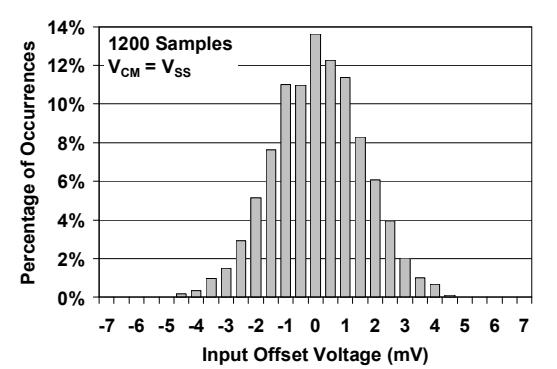

**FIGURE 1-3:** AC and DC Test Circuit for the Push-Pull Output Comparators.
**Electrical Specifications:** Unless otherwise indicated,  $V_{DD} = +1.6V$  to  $+5.5V$ ,  $V_{SS} = GND$ ,  $T_A = +25^\circ C$ ,  $V_{IN^+} = V_{DD}/2$ ,  $V_{IN^-} = V_{SS}$ , and  $R_L = 100 \text{ k}\Omega$  to  $V_{DD}/2$  (Refer to Figure 1-3).
**Electrical Specifications:** Unless otherwise indicated,  $V_{DD} = +1.6V$  to  $+5.5V$ ,  $V_{SS} = GND$ ,  $T_A = +25^\circ C$ ,  $V_{IN+} = V_{DD}/2$ ,  $V_{IN-} = V_{SS}$ , and  $R_L = 100 \text{ k}\Omega$  to  $V_{DD}/2$  (Refer to Figure 1-3).
**Electrical Specifications:** Unless otherwise indicated,  $V_{DD} = +1.6V$  to  $+5.5V$ ,  $V_{SS} = GND$ ,  $T_A = +25^\circ C$ ,  $V_{IN+} = V_{DD}/2$ , Step = 200 mV, Overdrive = 100 mV, and  $C_L = 36 \text{ pF}$  (Refer to Figure 1-2 and Figure 1-3).
**Electrical Specifications:** Unless otherwise indicated,  $V_{DD} = +1.6V$  to  $+5.5V$ ,  $V_{SS} = GND$ ,  $T_A = +25^\circ C$ ,  $V_{IN+} = V_{DD}/2$ ,  $V_{IN-} = V_{SS}$ , and  $C_L = 36 \text{ pF}$  (Refer to Figure 1-1 and Figure 1-3).